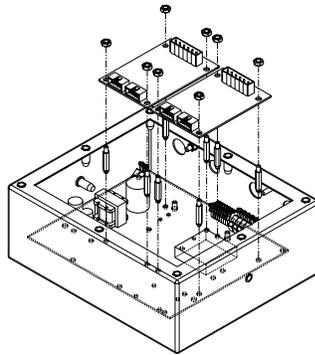

Figure 1: Model 355 Option Installation
2. Locate the option mounting holes by lining up the option card with the four holes to the left of the power supply section on the main board. Refer to Figure 1.
3. Install (4) nylon standoffs supplied with the option kit into the thru-holes on the main board.
4. Place the option card on the (4) nylon standoffs installed in step 3.
5. Fasten the option card to the standoffs with the (4) nylon nuts supplied with the option kit.